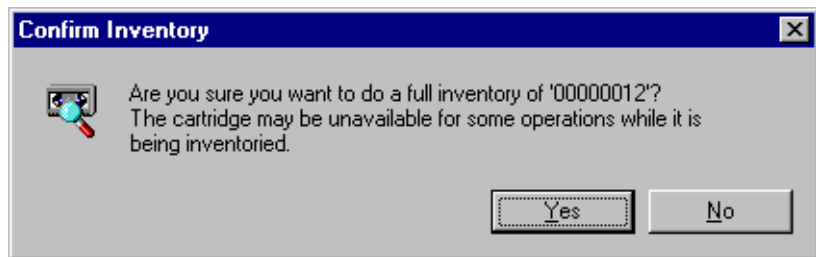

Figure 66. Confirm Inventory dialog box
2. Choose **Inventory** either from the **File** menu or from the shortcut menu with a right-click. Since the inventory takes several minutes to complete, you are asked to confirm the operation, as shown in Figure 66.